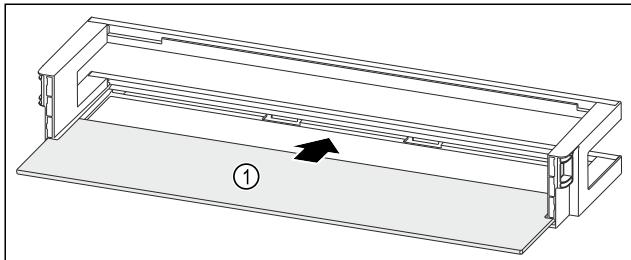

Fig. 112 Door rack with shelf
- ▶ Push the shelf Fig. 112 (1) into the side recesses.